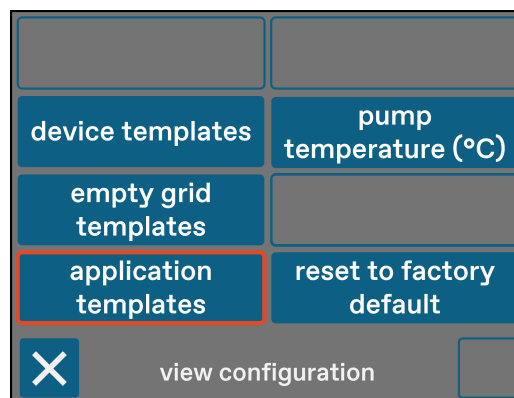

Figure 22: View configuration of pump control
4. Press the button labeled "application templates" (Figure 22).